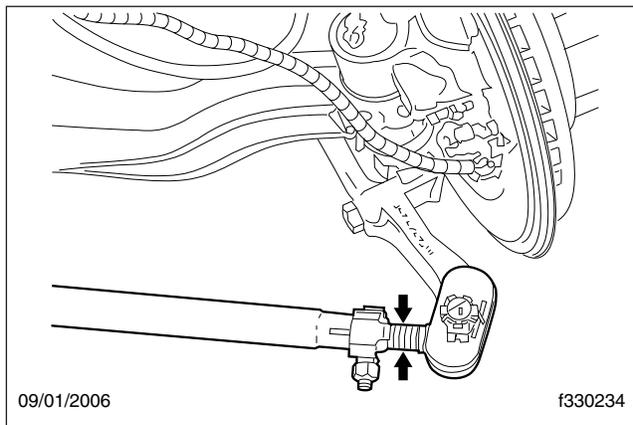

Fig. 5, Checking Tie Rod End Movement
4. Position yourself directly below the ball stud socket. Using both hands, grab the end as close to the socket as possible, no more than 6 inches (15.2 cm) from the end. Firmly apply about 100 pounds of hand pressure in an up and down motion several times. When moving the assembly, check for any movement at both tie rod ends. See Fig. 5.